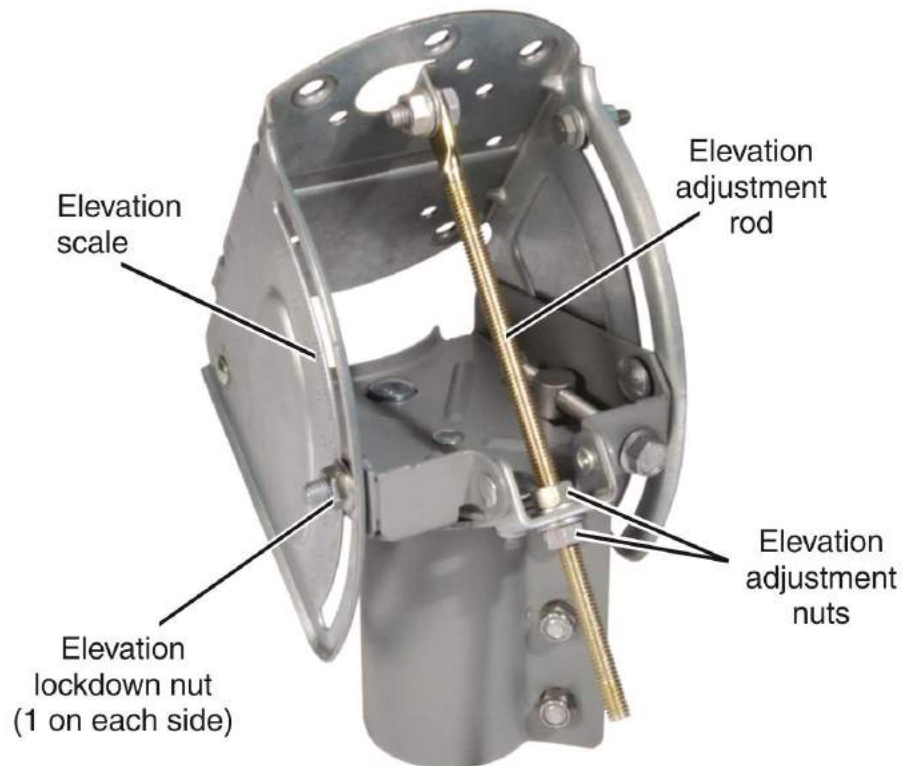

Figure 29: Elevation adjustment components
1. Loosen the elevation lockdown nuts on each side of the Az/El mount. See Figure 29.